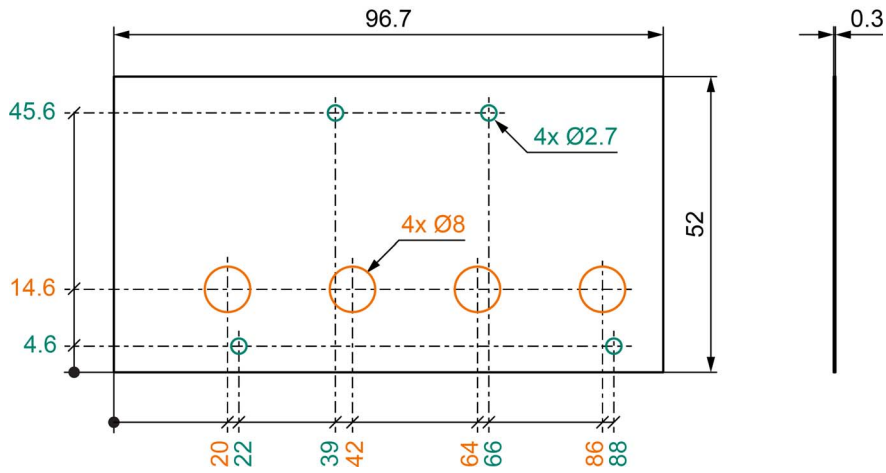
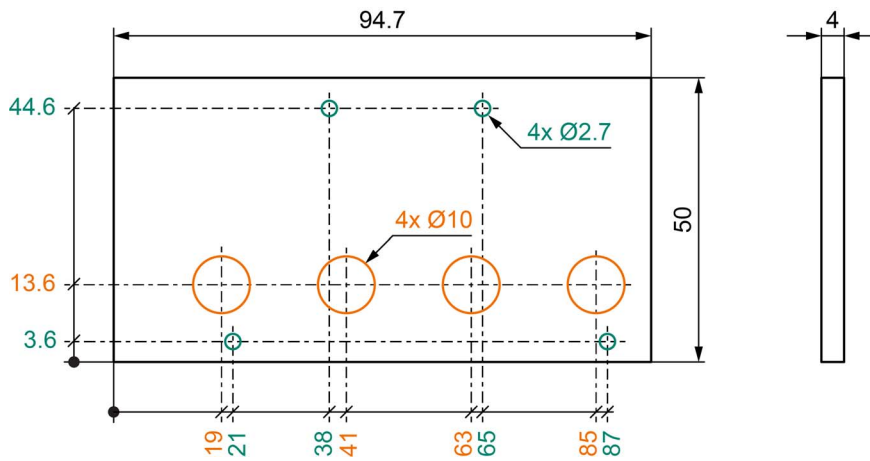

Figure 3-6 Silicone pad
Figure 3-7 Cooling plate
A good way to efficiently dissipate the heat from the controller is to attach a heat sink—which composes a cooling plate equipped with an electrical insulation. Check below →Table 3-8 for quantities and types as well as →Figure 3-6 and →Figure 3-7 for dimensions of the items needed to build a well capable heat sink.
- The dimensions of the silicone pad and cooling plate must be as to →Figure 3-6 and →Figure 3-7.